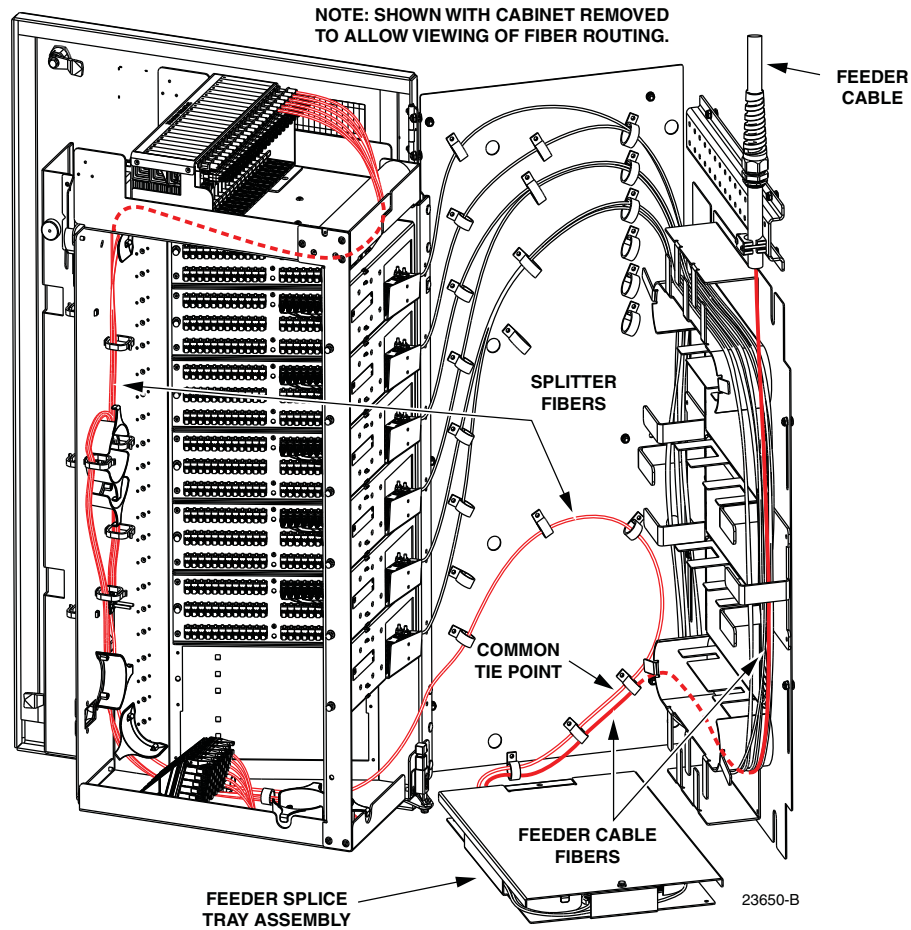

Figure 21. Feeder Splice Tray and Feeder/Splitter Fiber Routing
1. Locate the feeder splice tray assembly which is mounted at the bottom of the cabinet, as shown in Figure 21, and locate the splitter input fibers which are routed to the feeder splice tray.